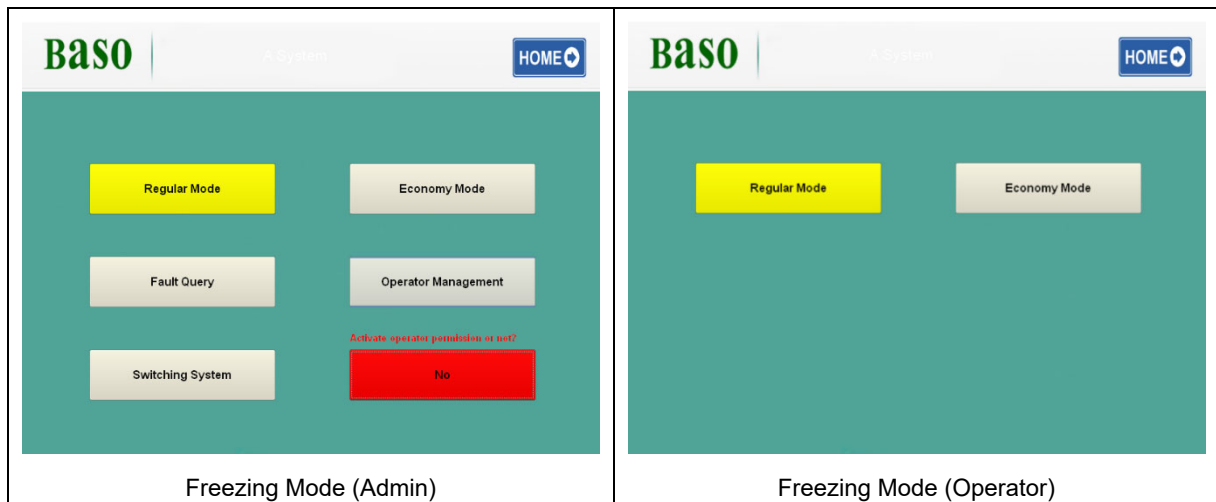
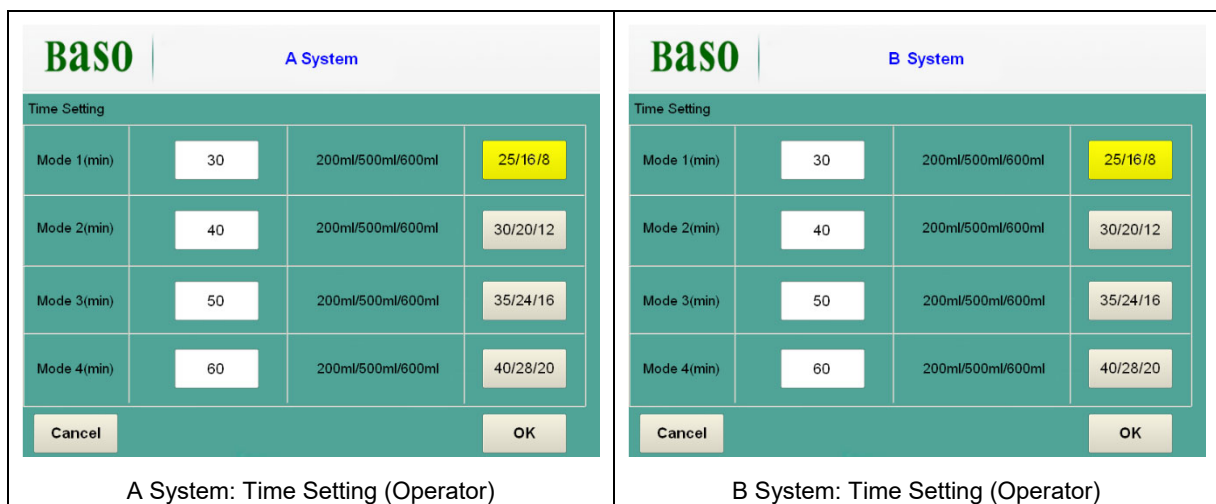
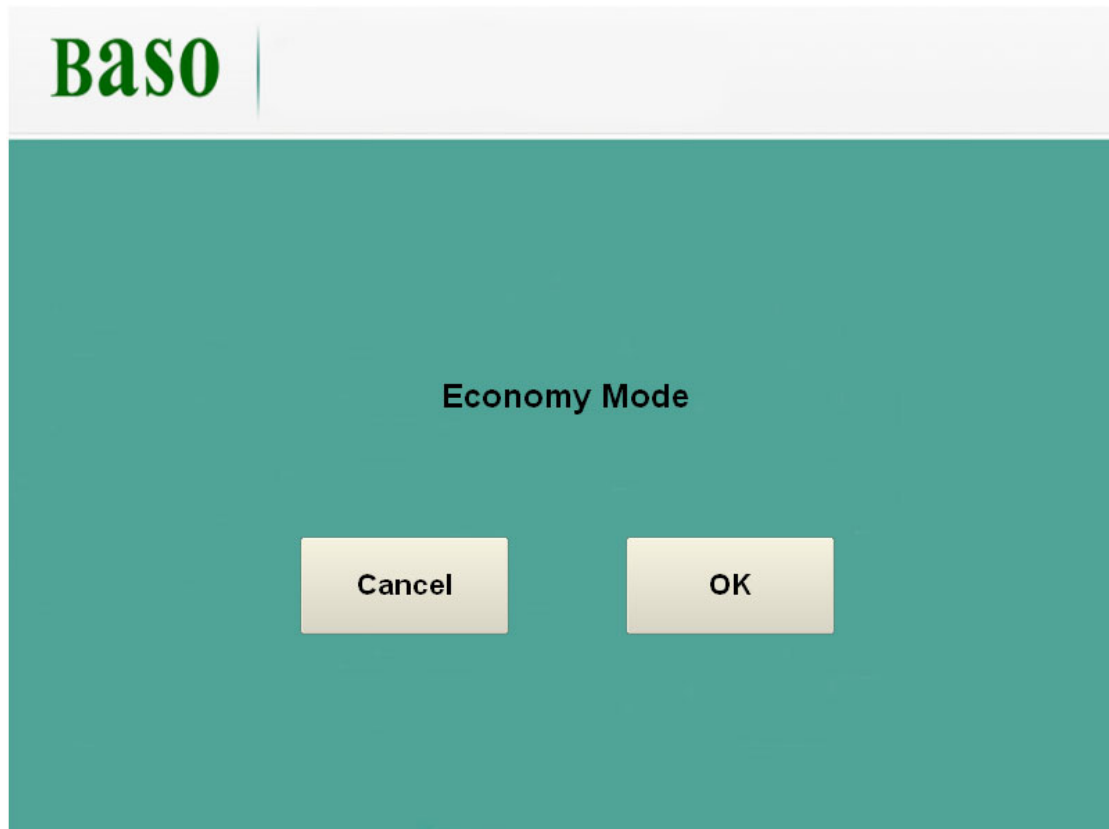

Fig 4.6 Settings Interface
Fig 4.7 Time Setting
Fig 4.9 Economy Mode Interface
Press “Open” button at the right of A/B System freezing chamber. When the freezing chamber is open and the cold plate stop, the transporting tray could be pushed into the freezing chamber and press “Close”. At last, click “Settings” > “Regular Mode” (Fig 4.6); Regular mode and economy mode for choosing, the regular mode is default) > Time Setting (Fig 4.7); According to the Table 2 to choosing) > “OK” > “Freezing”.
d) Click "Settings" > "Economy Mode" (Fig 4.9) > "OK" > Time Settings (Fig 4.7; According to the Table 2 to choosing) > "OK" > "Freezing".